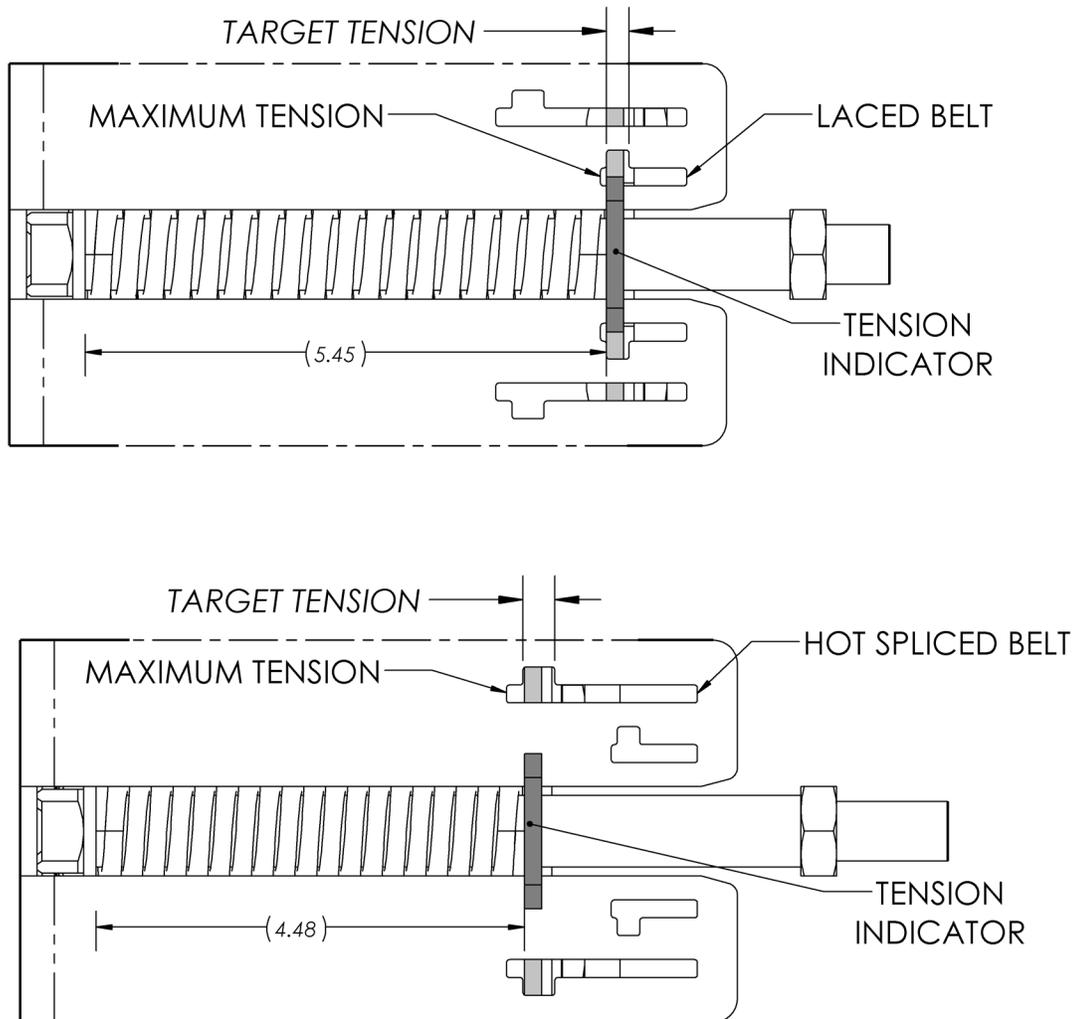

Figure 24: Tension Indicators
2. See Figure 24: Screw Takeup Drive Belt Routing, which is a duplicate of the same figure from section 5.5.1 for easier reference.